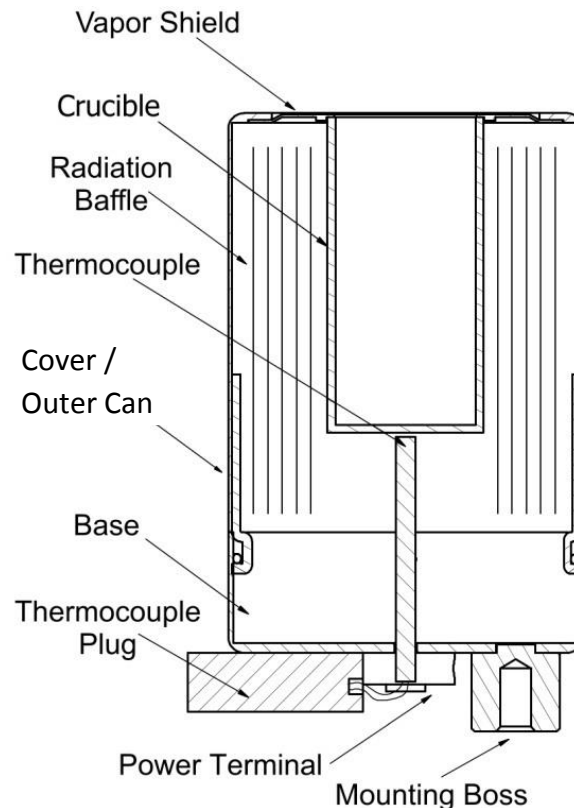

Figure 2: RADAK® furnace component names.
2. Connect power lead wires to the terminals on the furnace base. The power connection between vacuum system feedthroughs and the furnace may be made with 10 AWG copper lead wire (Figure 2). Insert copper wire ends into the power terminals on the base of the furnace and tighten the socket head setscrews. The setscrews on the side of the power terminals require a 7/64" Allen wrench.